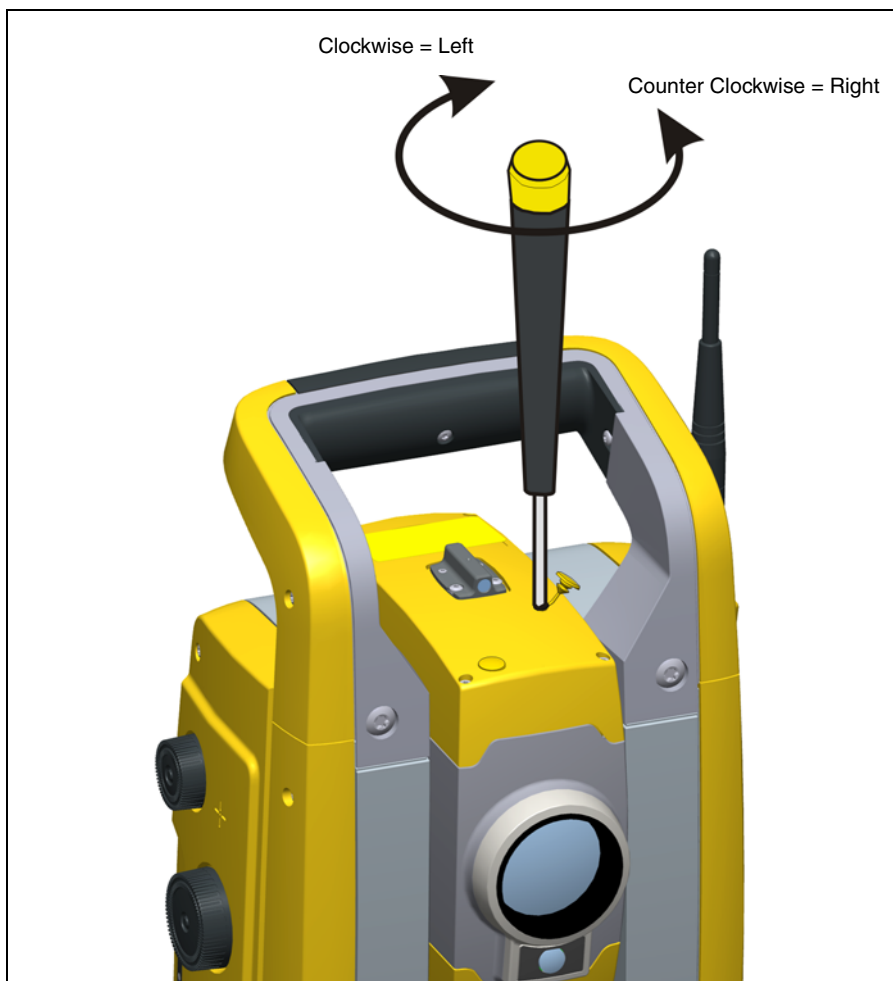

Figure 4.24 Horizontal position adjustment
3. To correct the horizontal position of the laser spot, insert the allen key into the horizontal adjustment port and turn it as shown in Figure 4.24.